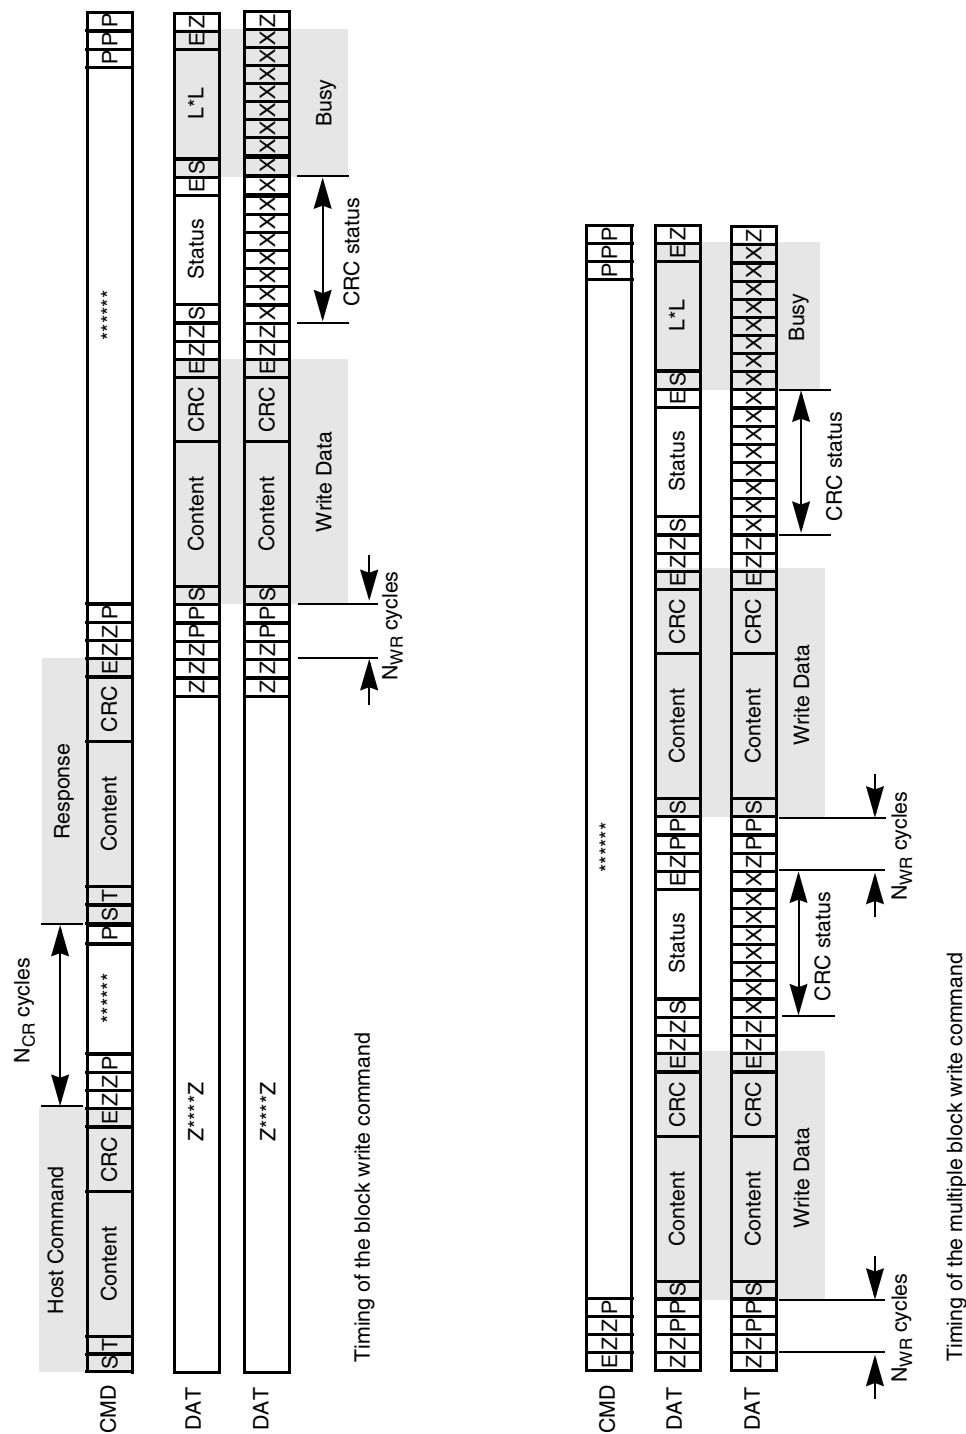

Figure 51. Timing Diagrams at Data Write
Figure 51 on page 68 shows the basic write operation timing. As with the read operation, after the card response, the data transfer starts after N_{WR} cycles. The data is suffixed with CRC check bits to allow the card to check for transmission errors. The card sends back the CRC check result as a CC status token on the data line. If there was a transmission error, the card sends a negative CRC status (101); otherwise, a positive CRC status (010) is returned. The card expects a continuous flow of data blocks if it is configured to multiple block mode, with the flow terminated by a stop transmission command.